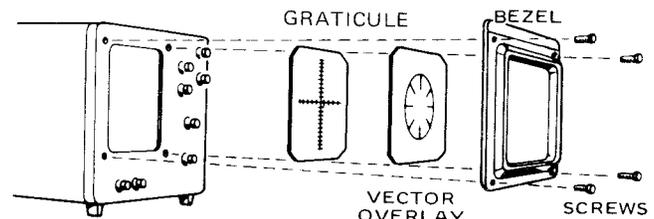

Fig. 24. Installation of vector overlay.
1. Attach vector overlay to scope. Remove bezel, insert overlay and re-attach bezel (see Fig. 24).